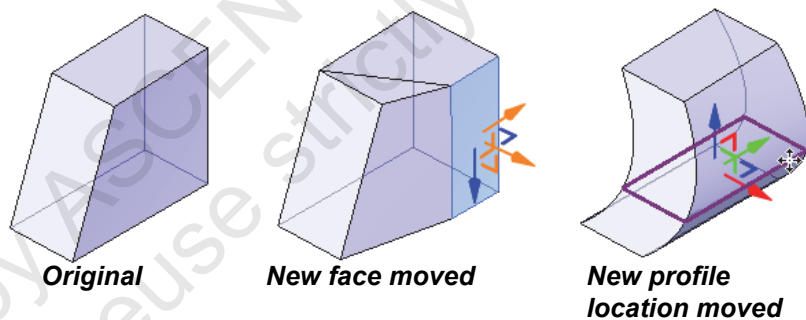

Figure 1–73
- If you cannot add an edge to a face,  displays, as shown in Figure 1–74.